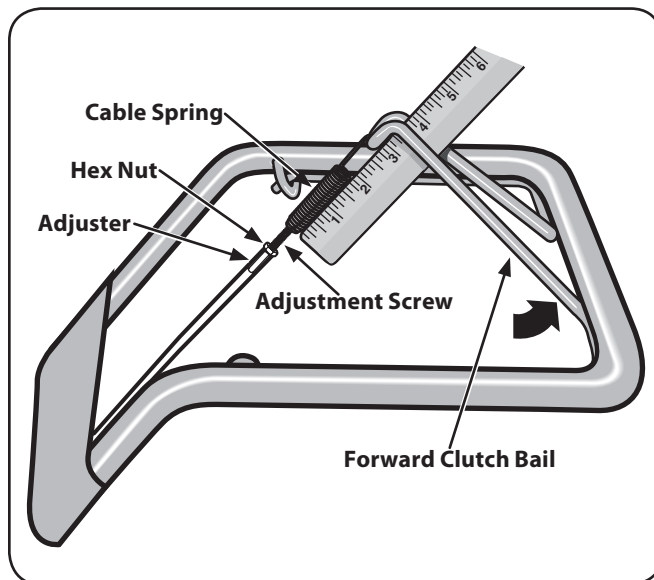

Figure 6-3
2. With the Forward Clutch Bail in an open (released) position, measure and note the overall length of the cable spring by measuring from the outermost coil to the outermost coil. See Fig. 6-3.